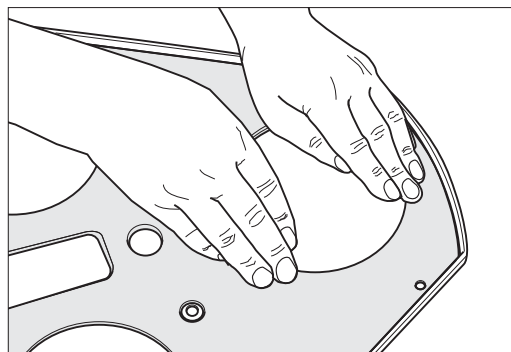

Fig. 56 Press the sealing felt carefully all over, especially at the edges and around the cutaways for the sanding disc gears.
- 10 Press the sealing felt carefully onto the cover everywhere, especially at the edges and around the cutaways for the sanding disc gears (Fig. 56).